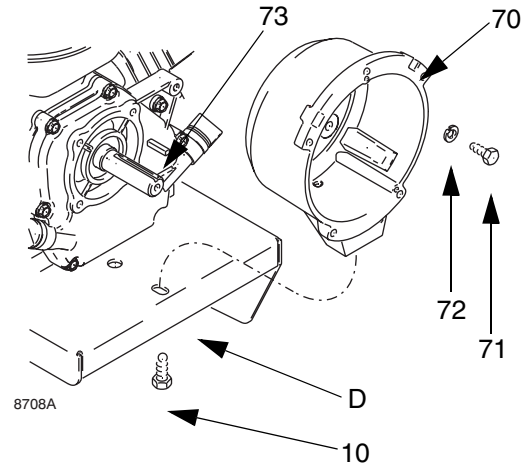

FIG. 12
1. FIG. 12. Remove four capscrews (71) and lockwashers (72) which hold clutch housing (70) to engine.
2. Remove screw (10) from under mounting plate.
3. Remove engine key (73).
4. Pull off clutch housing (70).
1. FIG. 12. Push on clutch housing (70).
2. Install four capscrews (71) and lockwashers (72) and secure clutch housing (70) to engine. Torque to 200 in-lb (22.6 N·m).